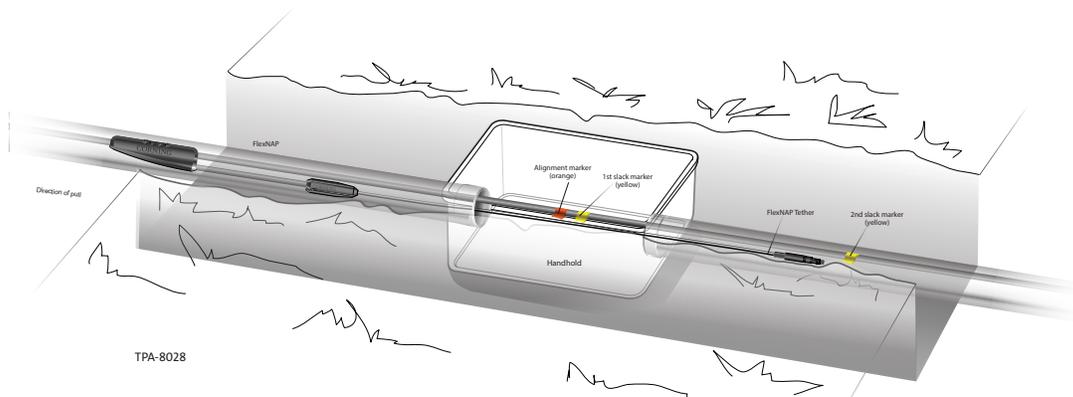

Figure 12
- 7.16 When a FlexNAP System tap point reaches its intended location, slow the pull speed. Each FlexNAP System tap point has an ORANGE alignment marker placed on the cable just after the FlexNAP System tap point (Figure 12).